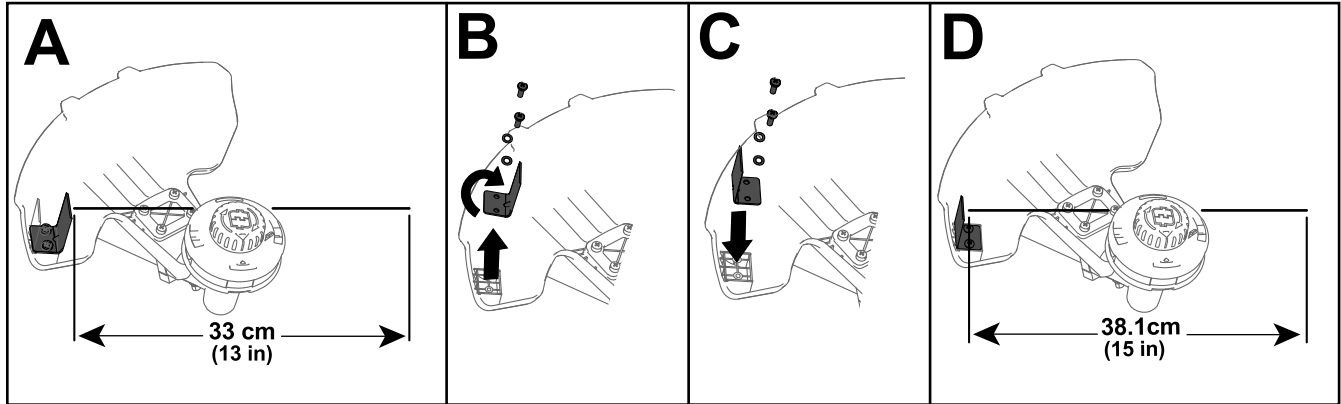

Figure 10
The trimmer comes from the factory with a cutting swath of 33 cm (13 inches) as shown in A of Figure 10. Refer to the following instructions to adjust the swath to 38.1 cm (15 inches) as shown in D of Figure 10.
1. Remove the swath blade from the bottom of the guard by removing the 2 screws holding it in place (B of Figure 10) and rotate the swath blade 180°.
2. Once the swath blade is rotated, install it onto the guard using the 2 screws previously removed (C of Figure 10).